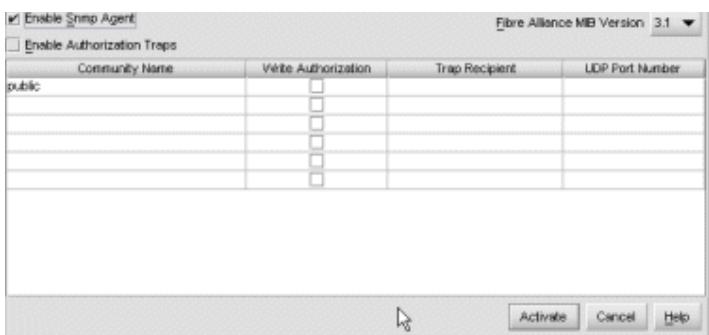

Figure 25 Configure SNMP Agent dialog box
1. At the Hardware View page for the selected switch, select **Configure > SNMP Agent**. The Configure SNMP Agent dialog box is displayed (Figure 25).